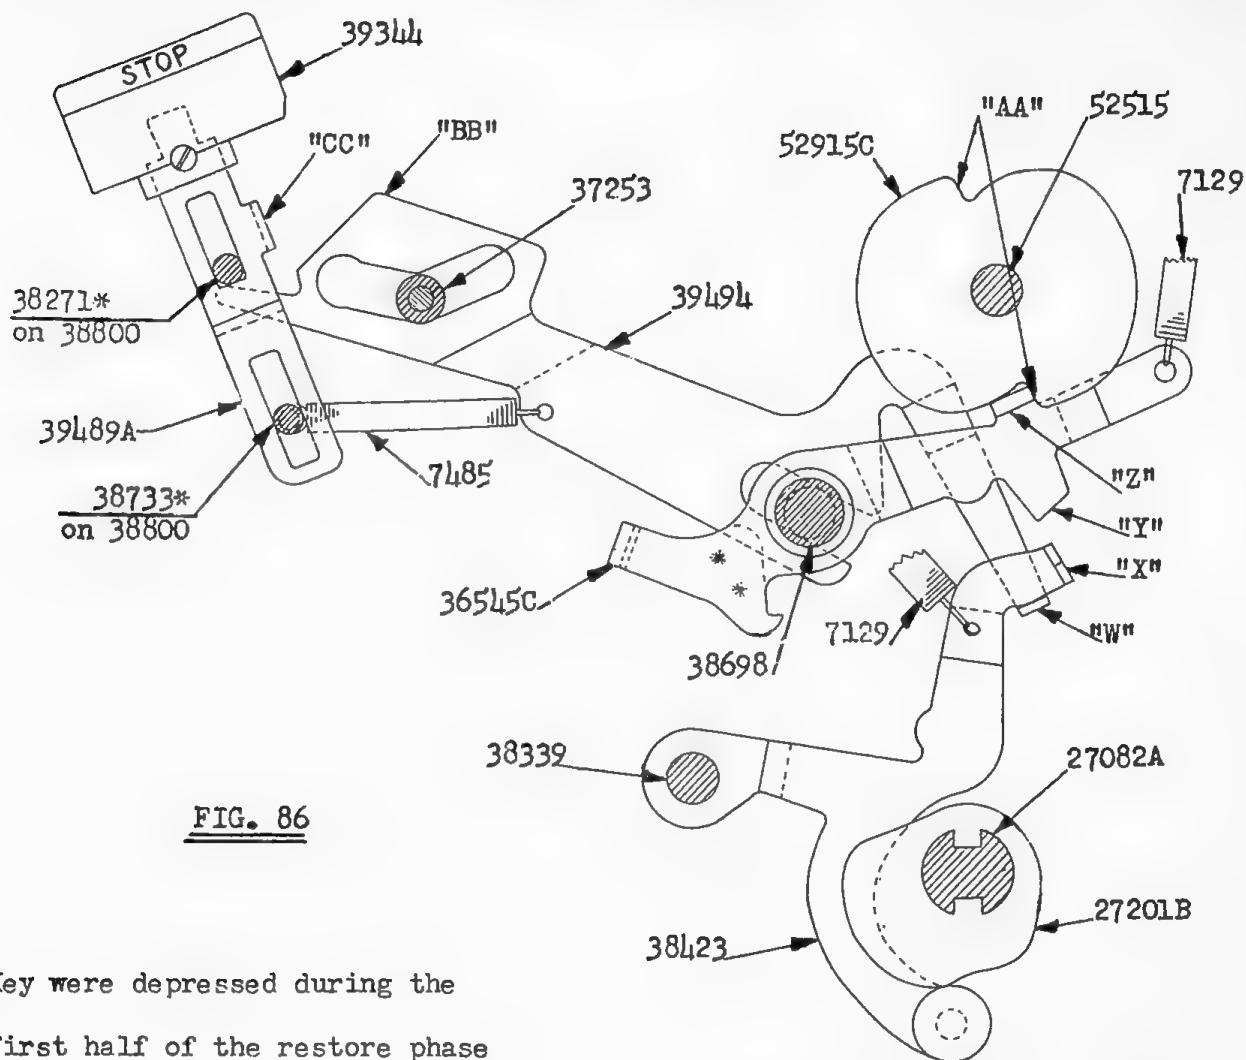

FIG. 86
1. (Fig. 86). In both multiplication and division the shift mechanism is returned to tab control upon depression of the Stop Key. (Section VI-Para. C-7 on Page 1283). If the Stop